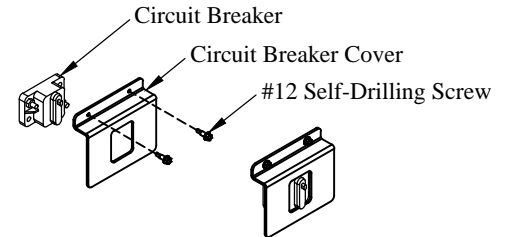

Figure 14: Circuit breaker cover.
16. **Install** the plastic circuit breaker cover over the circuit breaker using the supplied #12 self-drilling screws (Figure 14).